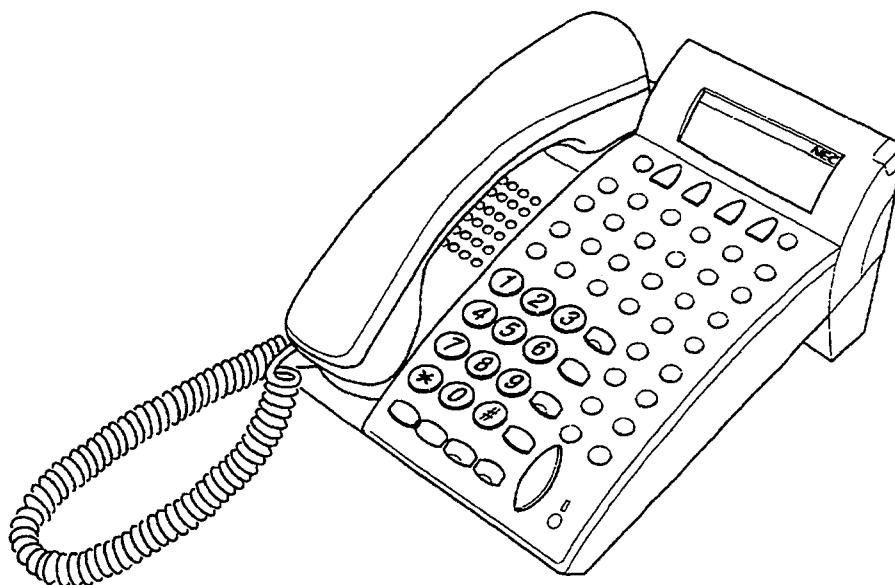

Figure 4-37 DTU-32D-( ) (BK)/(WH) TEL
This display digital multiline terminal has 32 programmable line keys (each with a two-color LED), built-in speakerphone, built-in headset jack, a Large LED to indicate incoming calls and messages, and compatibility with the ADA-U, APR-U, and HFU-U Units. This terminal comes in black or white. Refer to Figure 4-37 - DTU-32D-( ) (BK)/(WH) TEL.